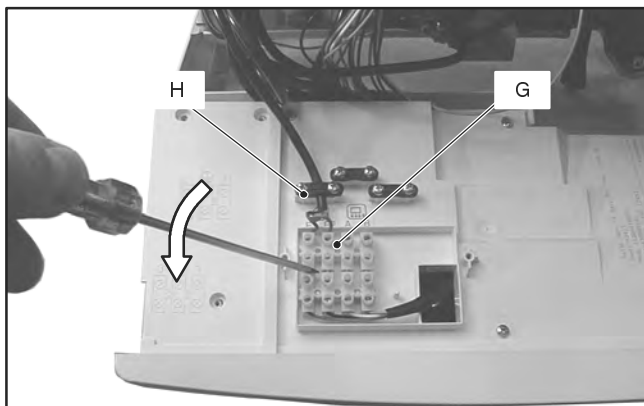

Fig. 2.6
- 7 With the help of a screwdriver disconnect the terminal block *G* (Fig. 2.6).